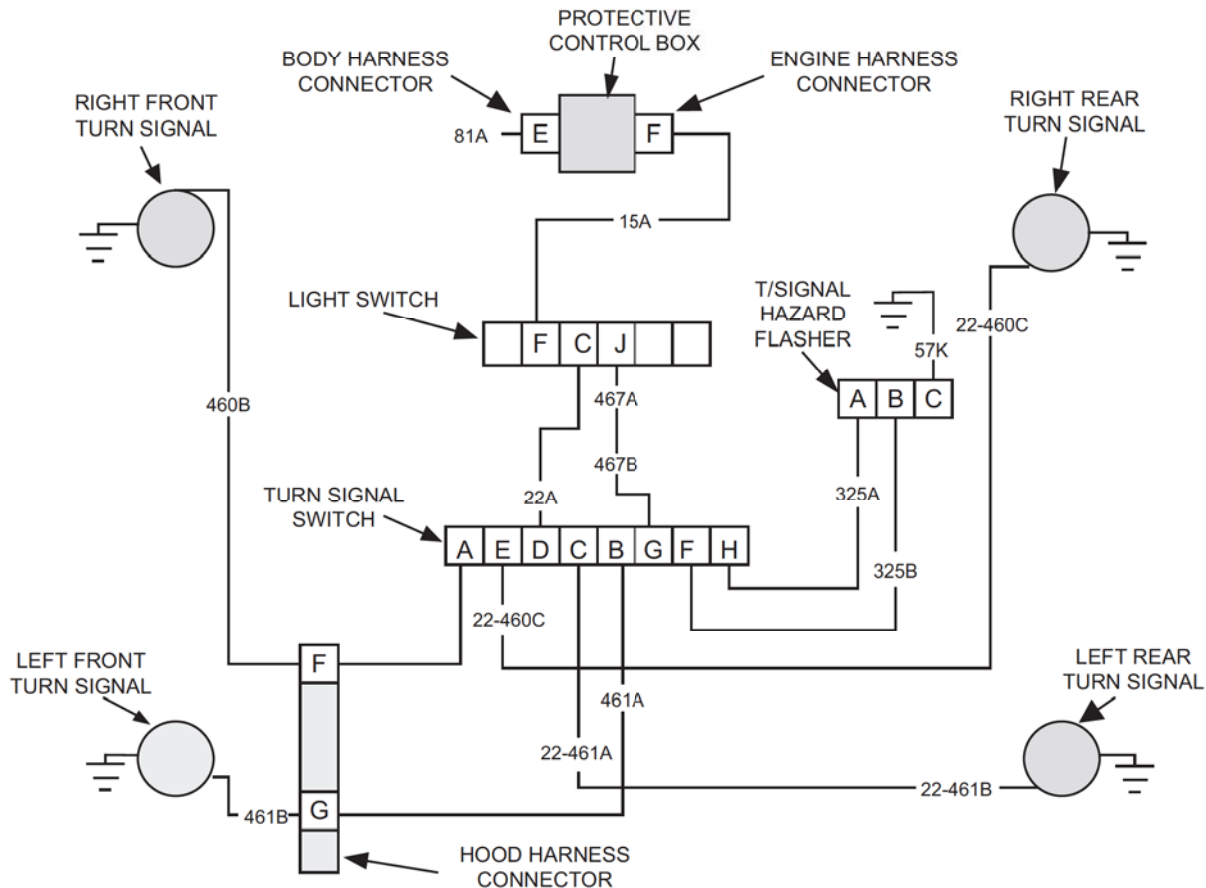

Figure 12-13. Turn Signal System Schematic.
**J. STOPLIGHTS INOPERATIVE OR DO NOT OPERATE PROPERLY (Figure 12-13)**
**K. TURN SIGNALS INOPERATIVE OR DO NOT OPERATE PROPERLY (Figure 12-13 and 12-14)**